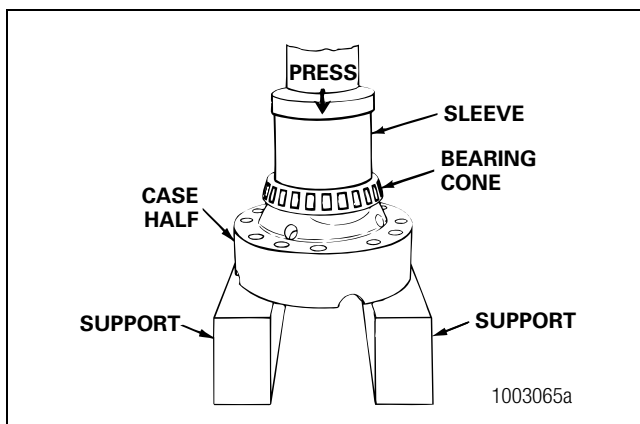

Figure 5.37
- Use a press and the correct size sleeve to install the bearing cones on both of the case halves. Figure 5.37.